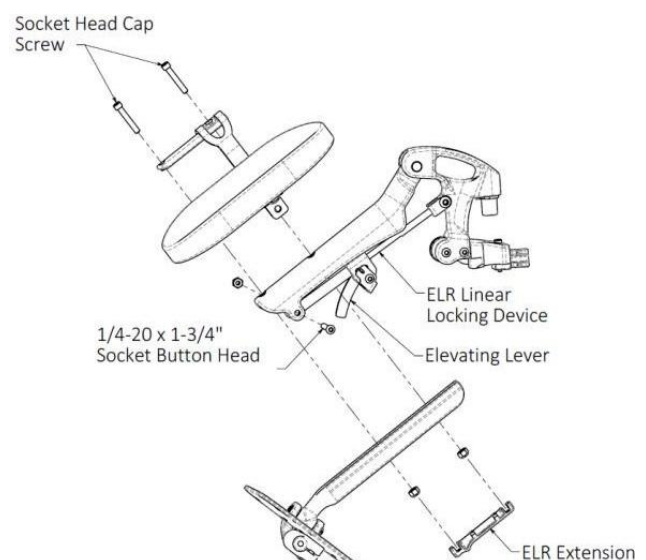

Fig. 5 Elevating Leg Rest Footrest Height Adjustment.
1. Loosen and remove the 1/4-20 x 1-3/4" Socket Button Head which holds the ELR's linear locking device, shown in Figure 5.